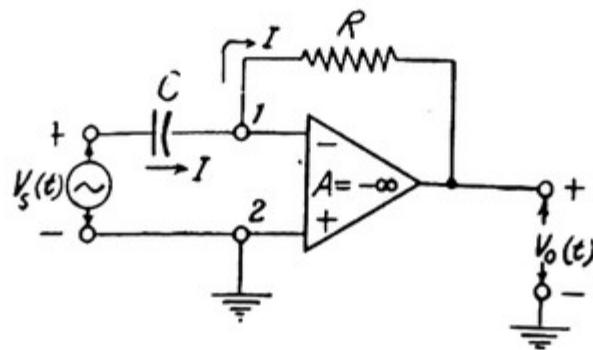

Fig. 22. Differentiator.
(6) Differentiator : In inverting OP-AMP, we replace input resistance by a capacitor to design a differentiator (fig. 22). Because of virtual ground at the inverting terminal, we have